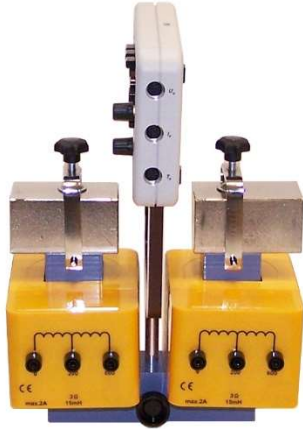

Fig. 6: Console inserted onto U-shaped holder
- Insert the console with the circuit board attached onto the U-shaped holder. Make sure the board is held parallel with the U-shaped core. You may need to turn the U-shaped holder slightly (see Fig. 6).